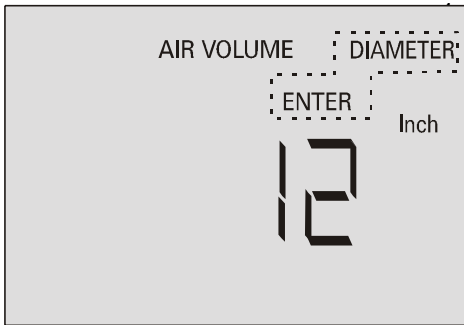

Fig.7
4.6 If you wish to measure round grills - after step 4.1 press ENTER button more than 2 sec (long press) until DIAMETER will be displayed on LCD. (fig.7)